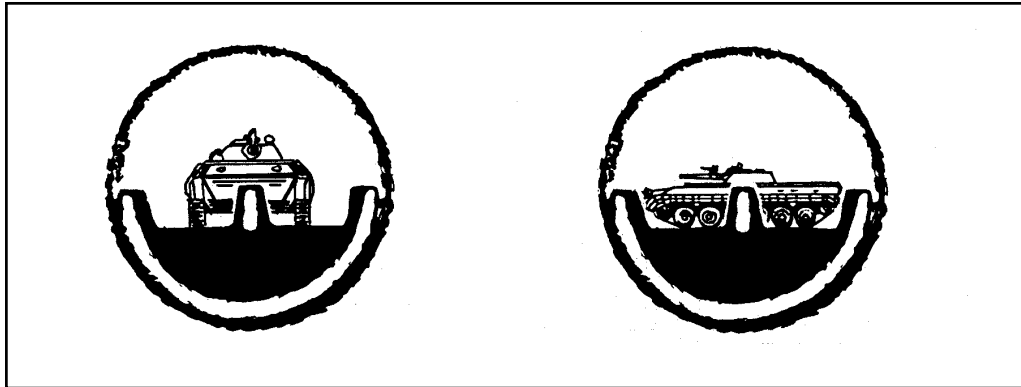
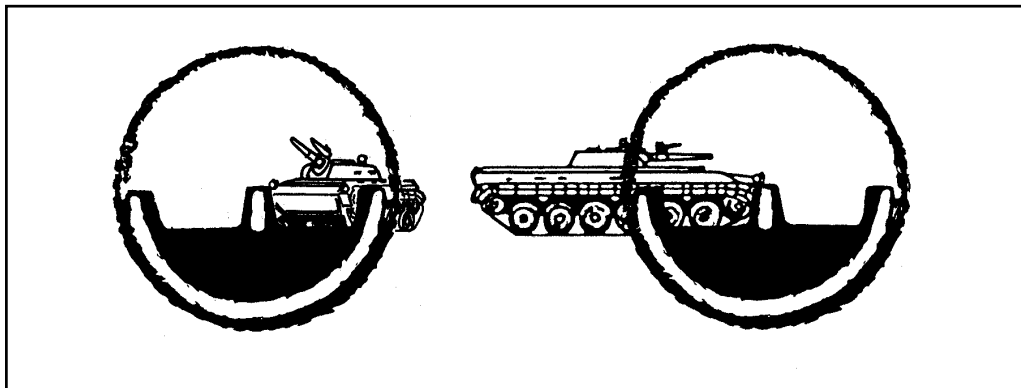

Figure 4-8. Sight picture, stationary targets, M136 AT4.
Figure 4-9. Sight picture, slow-moving targets, M136 AT4.
(2) *M136 AT4. Stationary targets* include those moving directly toward or away from the firer. Adjust the rear sight for the correct range and place the center sight post in the center of the target (Figure 4-8). *Slow-moving vehicles* are those with an estimated speed of 10 mph or less, or those moving in an oblique direction. Place the center sight post on the front or leading edge of the vehicle (Figure 4-9). *Fast-moving vehicles* are those estimated to be moving faster than 10 mph. Place either the left or right lead post on the